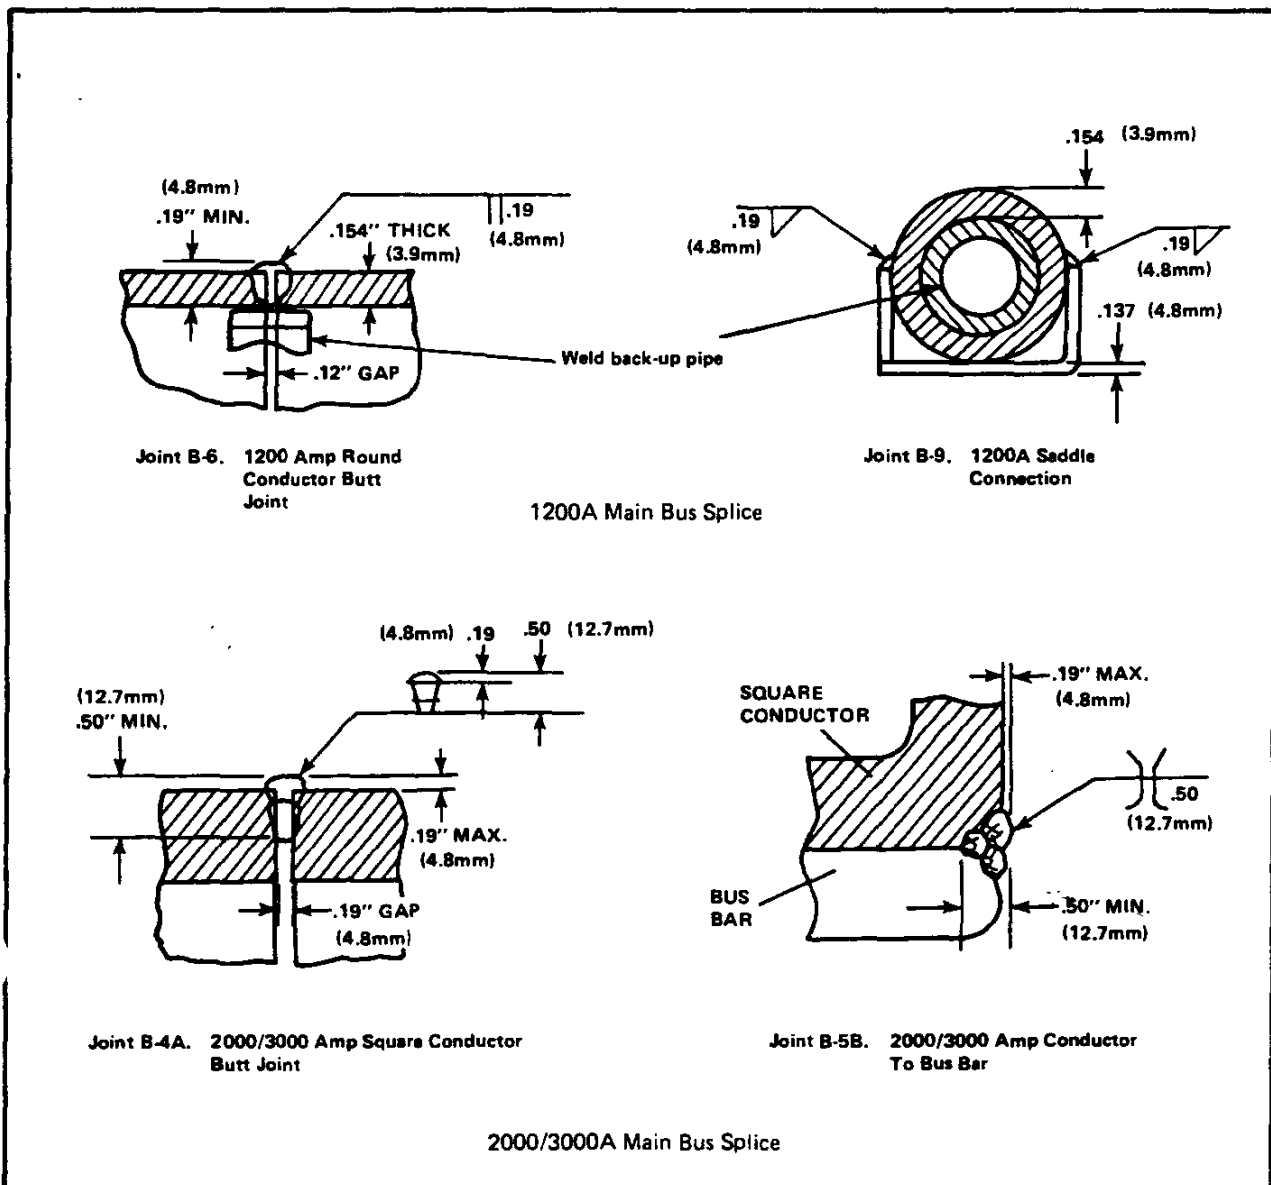

Figure 22. GMAW Welding Parameters for Flat, Horizontal, Vertical Fillet and Partial Penetration Groove Welds
- 5.4.1 The weld sizes, types of joint, welding conditions and typical number of passes are given in figure 22.
For 3000A fan-cooled units, the three-phase fan assembly must be removed before hinged barriers can be lowered. This is accomplished as follows (Figs. 22 A and B).